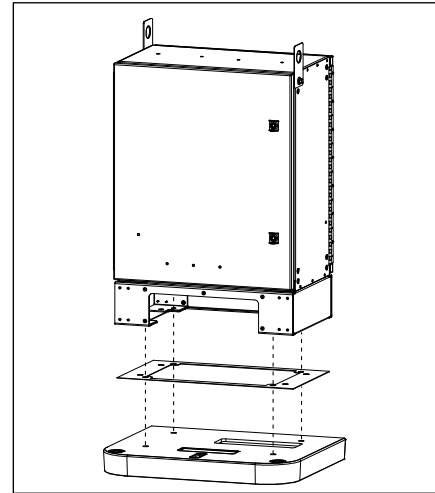

Figure 7
3. Lower the OHC onto the gasket, following the instructions included with the OHC (Figure 7). Dress the cable/conduit so that it aligns with the OHC and the TRUE cutout.